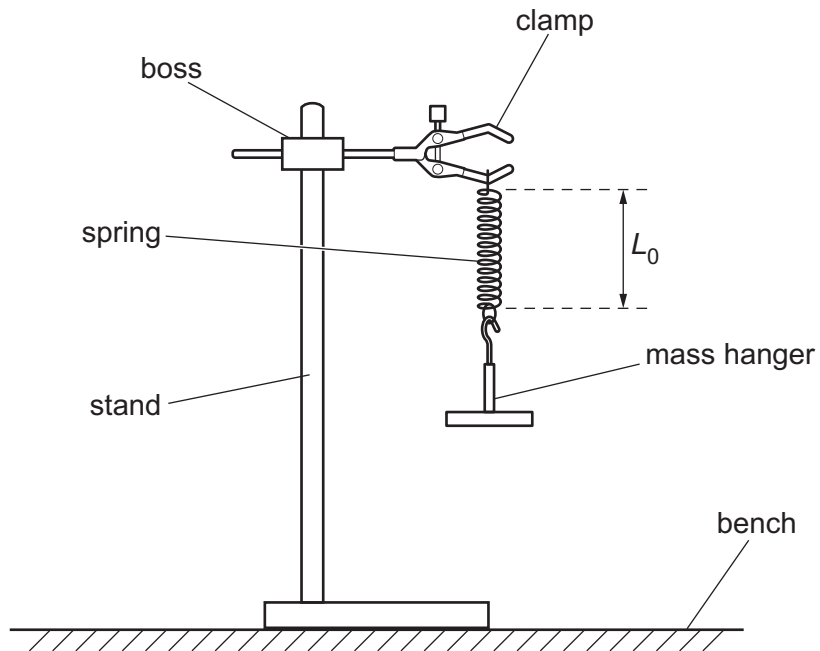

Fig. 2.1
- Suspend the mass hanger from the spring as shown in Fig. 2.1.